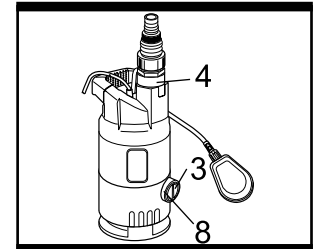

Fig. 2b
- (2). Use upper outlet nozzle for clean or dirty water purposes, with a particle size less than or equal to 10mm. To extract water from upper outlet nozzle, you need to unscrew the plastic plug (3) from upper outlet nozzle (4) and then screw it into lower outlet nozzle (8) and tighten. Then connect the additional hose connector (15) and additional adaptor (14) and discharge pipe to upper outlet nozzle (4). (See Fig. 2b)